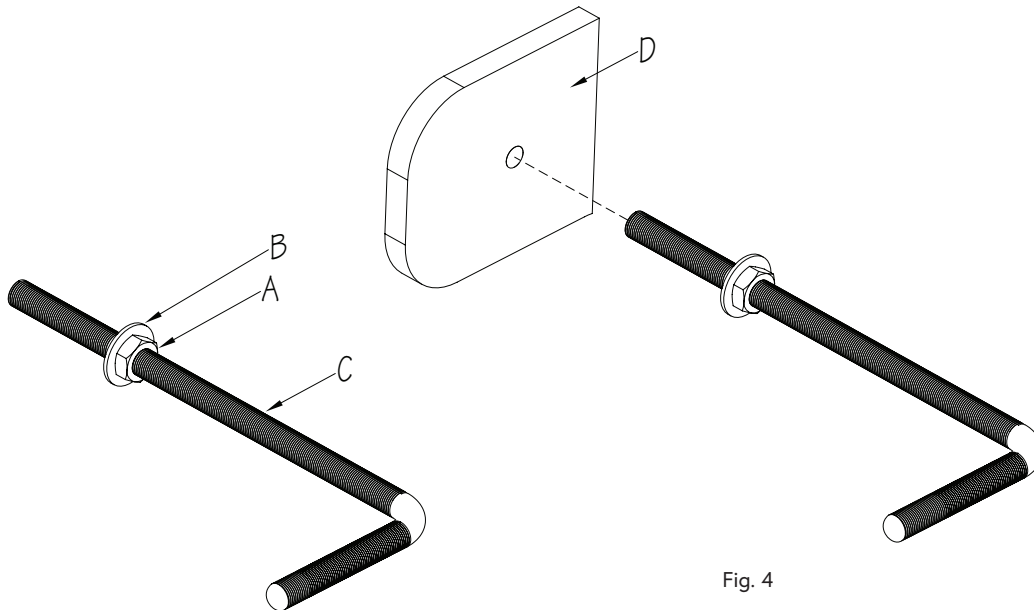

Fig. 4
3. Install a Jam Nut (A) and Flat Washer (B) onto each Threaded Rod (C) and then thread the rods into the Washers (D) cut from the template in the previous step (Fig. 4).